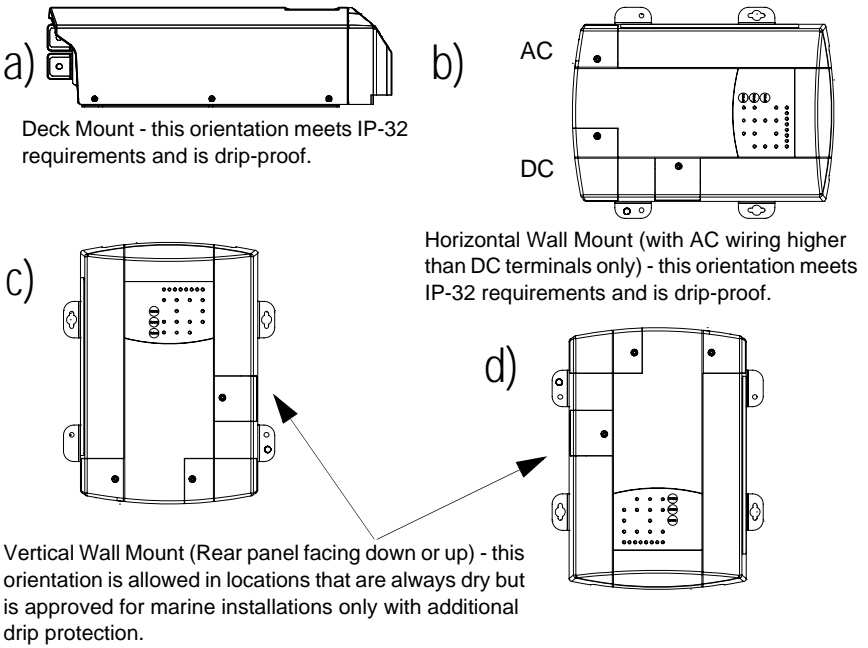

Figure 2-2 Truecharge™ 2 Battery Charger Mounting Orientations
1. In two specific installation orientations—see Figure 2-2, “Truecharge™ 2 Battery Charger Mounting Orientations” on page 2–7.
When planning to install the Truecharge™ 2 Battery Charger, be sure that you consider the location and orientation carefully. The Truecharge™ 2 Battery Charger is considered to have an IP rating of IP-32, if installed in either of two specific orientations [shown in Figure 2-2 a) and b)]. This rating means that it meets standards to prevent dripping water from entering the enclosure, and causing shock hazard and damage to equipment.
The other possible mounting orientations will not prevent the entry of dripping water, and are not suitable for marine or other moist environments without the installation of additional drip protection. They are only acceptable for use in locations that are always dry [shown in Figure 2-2 c) and d)].
In marine environments, there is a likelihood that condensation will be present, and may drip on to the charger. Use the appropriate mounting orientations as shown in Figure 2-2.
Mount the Truecharge™ 2 Battery Charger using all four mounting slots and holes which are provided. Mounting orientations a) and b) in Figure 2-2 meet IP-32 and drip-proof requirements that are needed to ensure safety in the presence of condensation. The other possible mounting orientations c) and d) also shown in Figure 2-2 will not prevent the entry of dripping water, and are not suitable for use in marine installations or other moist environments without the installation of additional drip protection. They are only acceptable for use in locations that are always dry.